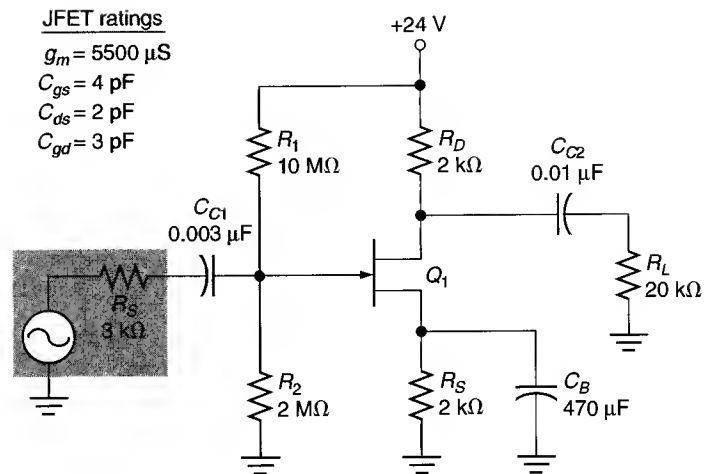

FIGURE 14.38
40. Calculate the overall values of f_{C1} and f_{C2} for the amplifier in Figure 14.38.